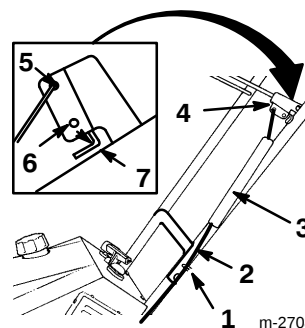

Figure 10
IMPORTANT: You must route the control cable through the cable guide before you tighten the handle lock (Fig. 10).
3. Slide the spring cover over the spring and the cable adjuster and push the spring end through the hole at the end of the spring cover (Fig. 10).
4. Hook the spring into the top hole of the control bar bracket (Fig. 10).
6. Ensure that a 1/16 to 1/8 inch (0.16 to 0.32 cm) gap exists between the control bar and the handle (Refer to the inset in Fig. 10). To adjust this gap, refer to *Adjusting the Control Bar* on page 16.
3. Ensure that a 1/16 to 1/8 in. (0.16 to 0.32 cm) gap exists between the control bar and the handle (Refer to the inset in Fig. 10). To adjust this gap, refer to *Adjusting the Control Bar* on page 16.